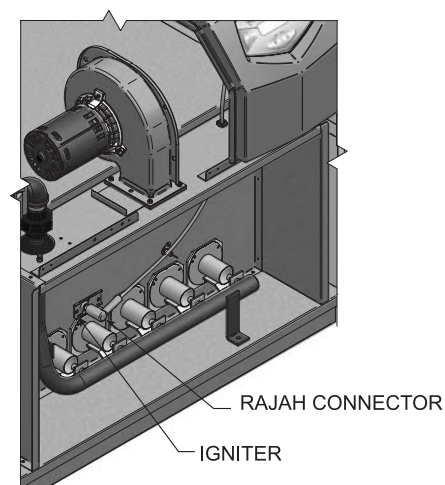

Figure 2-5 *Igniter Replacement*
- d) Disconnect the rajah connector from the igniter (FIG. 2-5).